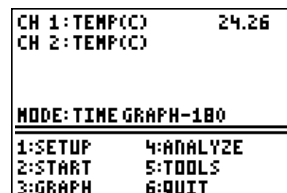

Figure 3
- If the sensors are not recognized, or if there are residual setting from past experiments, press : on the TI-73 to reset the CBL 2™ (Figure 3).
- To make changes to one of the sensors, press Ψ to access the **1: SETUP** menu (See Figure 3).